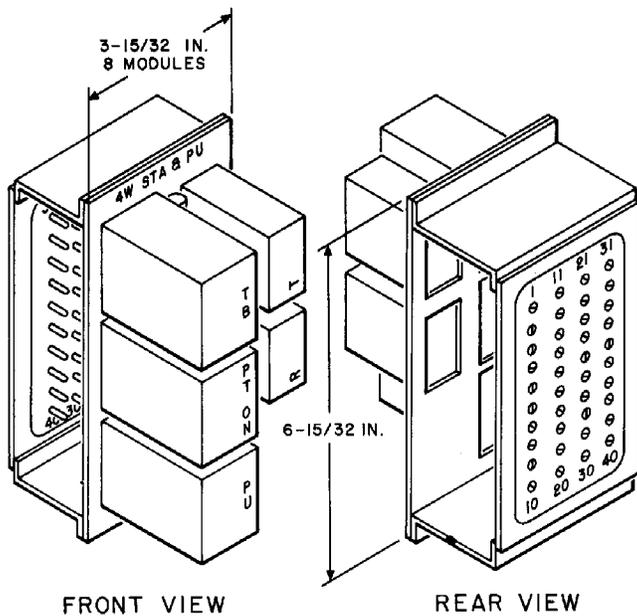

Fig. 4—Combined Single Station and Pickup Relay Unit
**2.07** This unit (Fig. 4) combines one pickup relay circuit and one station circuit into a key telephone unit. The same circuits are available in separate units; one to provide the pickup relay circuit and one to provide the station circuit.